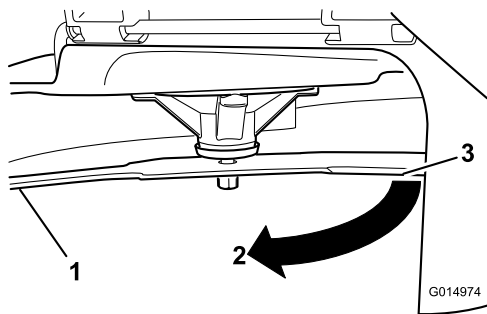

Figure 58
3. Measured distance between blade and the surface (A)
4. Rotate the same blade 180 degrees so that the opposing cutting edge is now in the same position (Figure 58).